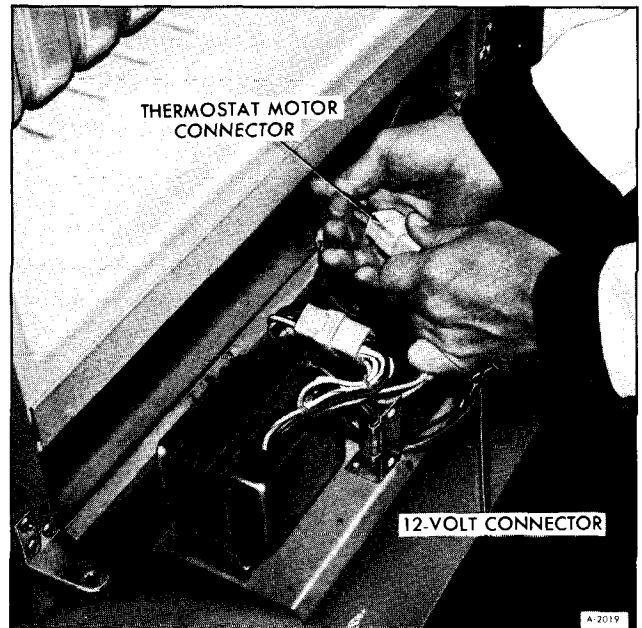

Figure 16—Disconnecting Wiring
3. Disconnect wiring from back of assembly (figure 16).
1. Connect wiring as shown in Figure 16.